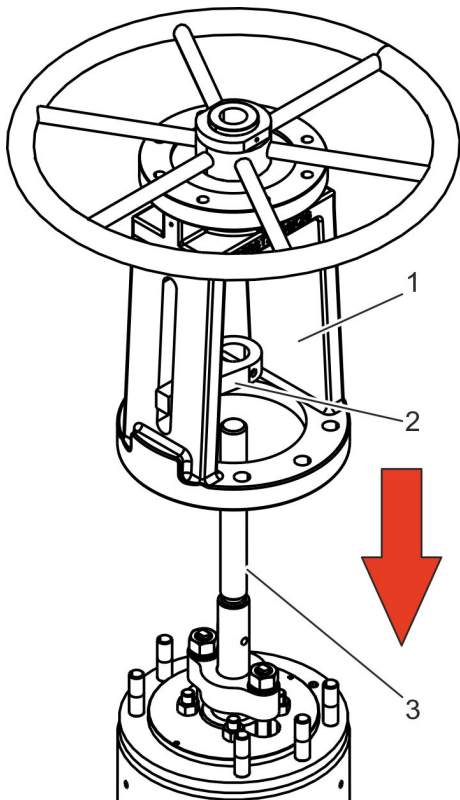

Fig. 29: Bonnet and anti-twist device
- 17. ▶ Use a hoist to attach the bonnet (Fig. 29/1) together with the anti-twist device (Fig. 29/2) onto the stem (Fig. 29/3).
- 18. ▶ Fit the bonnet (Fig. 29/1) onto the stud bolts in the body.